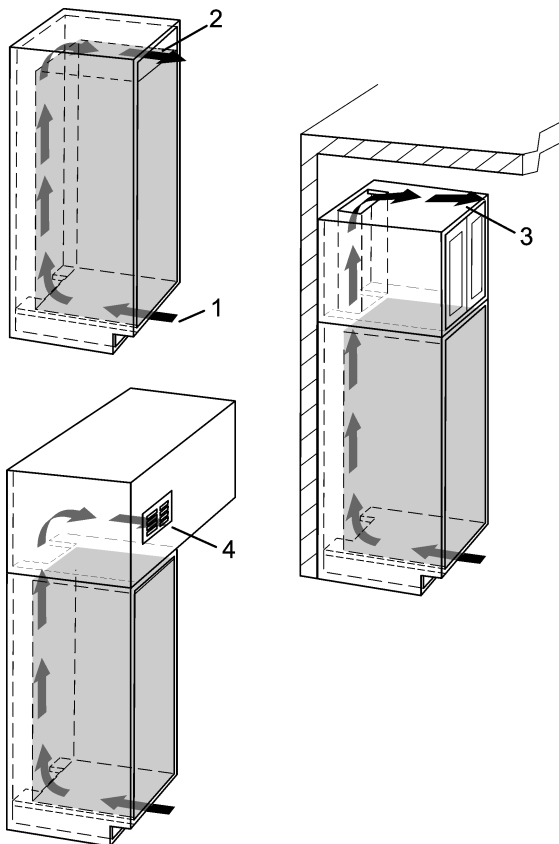

Fig. 4
- The top ventilation space can be either directly over the appliance *Fig. 4 (2)* or next to the ceiling over a cabinet *Fig. 4 (3)*, or through a vent installed in a soffit *Fig. 4 (4)*.
- There must be a ventilation space at least 31 in² (200 cm²) at the airflow inlet *Fig. 4 (1)* and at the airflow outlet *Fig. 4 (2)*.